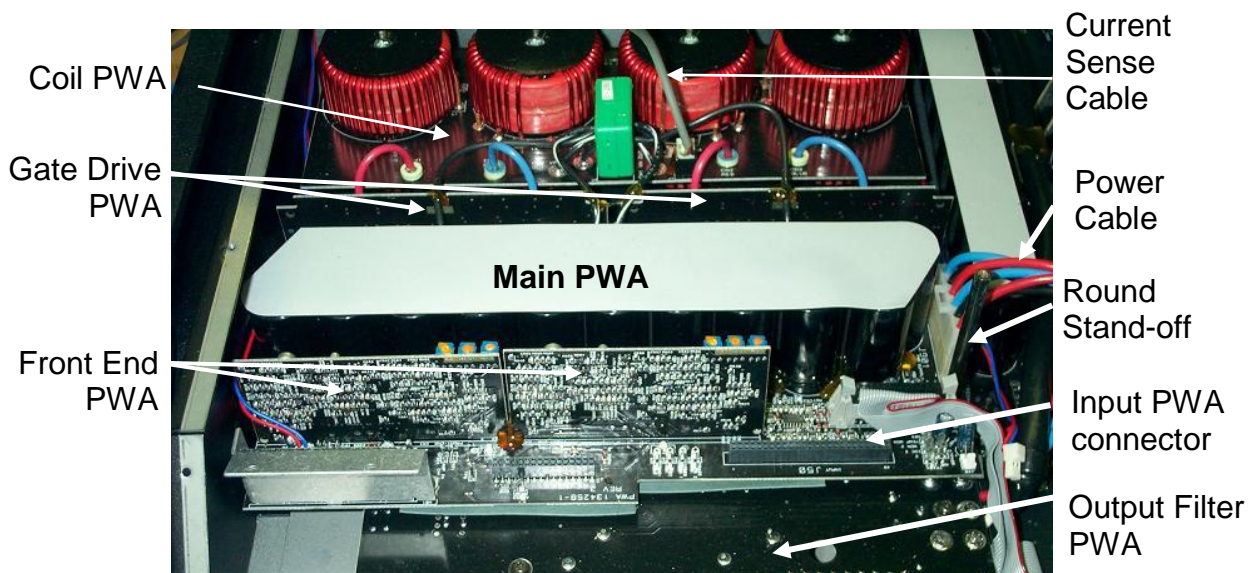

Figure 4.8 BCA Assembly
2. Remove one round standoff from Main PWA (see Figure 4.8).
4. Disconnect the current sense cable from the Coil PWA. See Figure 4.8, the other end is connected to the input PWA.